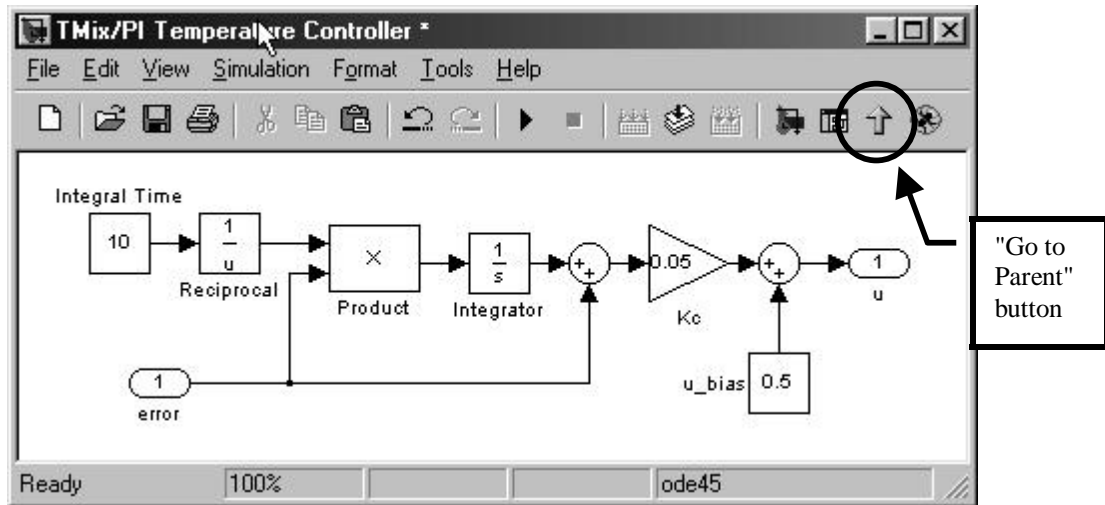

Figure 3.
- Fix the block layout and connections between blocks to match Figure 3.